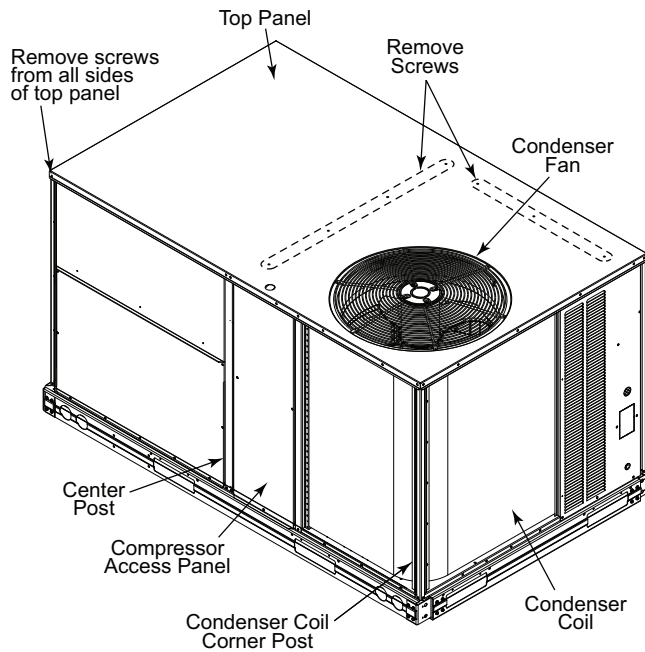

Fig. 15 — Location of Screws and Coil Corner Post
2. Remove all screws from the top panel except the screws securing the condenser fan to the top panel. (See Fig. 15.)